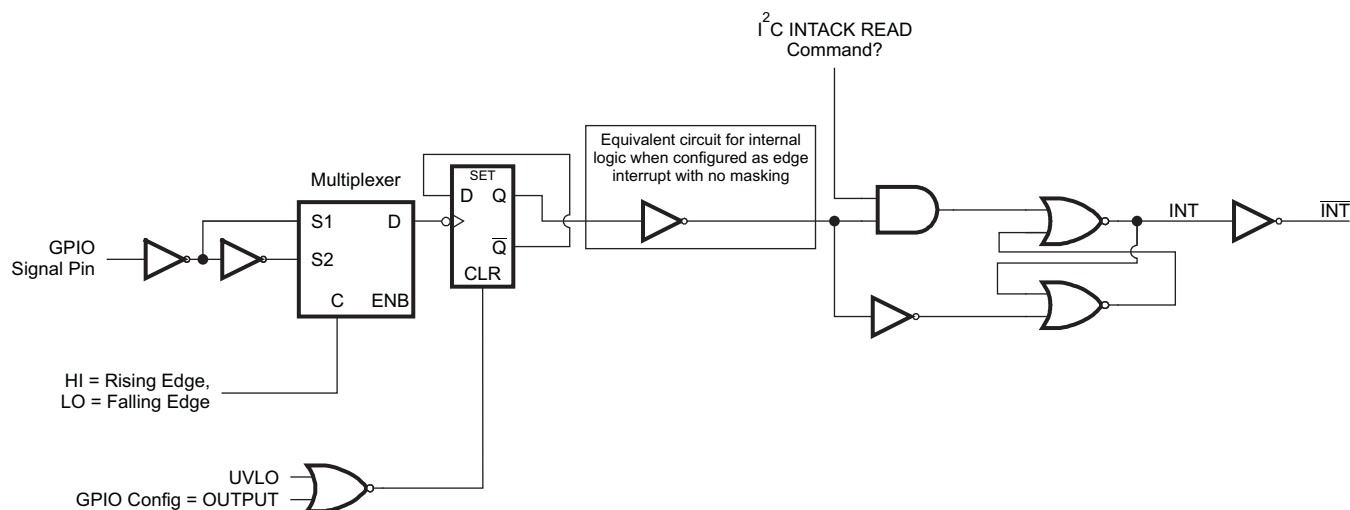

Figure 59. GPIO 1 or GPIO2 Configured as an Interrupt Request Input
See Figure 59 for a description of the logic used for GPIO1 and GPIO2 inputs when configured for edge-triggered interrupt generation. The signal from the GPIO pin input is double-latched before being sent to the interrupt controller logic. The inversion of the Q output from the first flip-flop must be HI to allow the output latch to be cleared when a READ command occurs. On the initial edge of the GPIO signal, the Q output of the flip-flop is set (HI). The $\overline{\text{INT}}$ line is asserted (LO) after the initial selected edge from the GPIO pin. On the next falling (or rising) edge of the GPIO pin, the interrupt can again be cleared (which allows the INT pin to go back high). The $\overline{\text{INT}}$ signal is cleared (set back HI) after an I²C READ operation is performed.